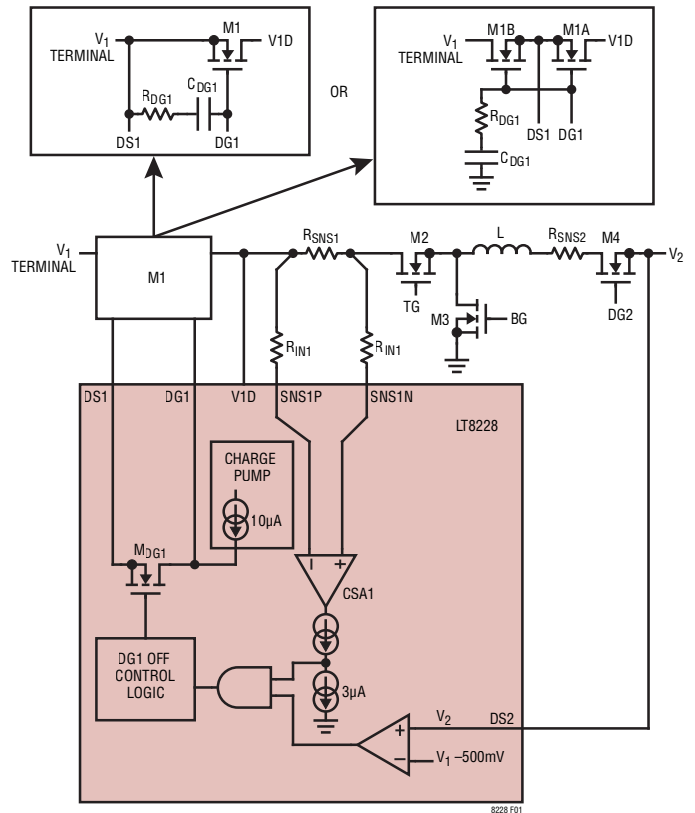

Figure 1. M1 Control in Buck Mode
The LT8228 provides protection functionality at the V₁ terminal using two N-channel MOSFETs M1A and M1B connected back-to-back in series or a single N-channel MOSFET M1 as shown in Figure 1. In dual MOSFET back-to-back configuration, DS1 is the source and DG1 is the gate of both M1A and M1B. V1D is the drain of M1A and V₁ is the drain of M1B. In single MOSFET configuration, the source of M1 is connected to DS1 and the V₁ terminal, DG1 is the gate and V1D is the drain. The advantages of the dual MOSFET configuration are inrush current control and complete isolation of the V₁ terminal in a fault condition. In normal operation, the controller drives DG1 high with a typical 10μA pull-up current that enhances the V₁ protection MOSFETs to provide a low loss conduction path between V₁ and V1D. The DG1 voltage is clamped at a typical value of 10V above DS1. The DG1 controller shorts DG1 to DS1 thereby isolating V₁ from the rest of the circuit when (1) the LT8228 is disabled or